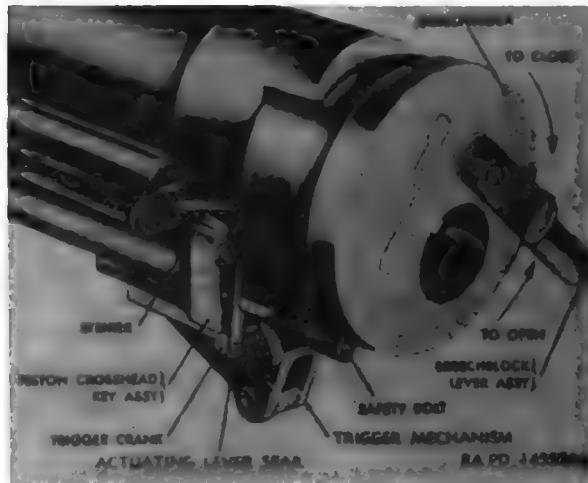

Figure 176. 37-mm gun breech.
a. Breechblock and Breechblock Lever. The breechblock (fig. 176) is an eccentric type which screws into the breech ring, and rotates through an angle of 156° about its axis. The axis of the breech recess is below the axis of the bore. The breechblock is operated by a breechblock lever assembly which, when rotated counterclockwise, positions the eccentric opening in line with the bore. Opening the breech operates the extractor, which extracts the cartridge case. When the lever is rotated clockwise, the breechblock closes the breech, seats the cartridge, places the firing pin in line with the primer in the base of the cartridge case, and at the same time, releases the safety bolt.
- (1) The subcaliber gun should be loaded at approximately 150-mils elevation, since this elevation is used when loading the primary weapon (par. 46). However, it is possible to load the 37-mm gun at any elevation less than 65°. At low elevation, the gun is loaded by standing on the trails or bogie. At high elevations, the gun is loaded by standing on the board placed across the trails under the breechblock of the 155-mm howitzer.
- (2) First cock the gun (par. 153b) if not already automatically recocked, and then open the breech (par. 153).
- (3) Place a round in the breech opening (fig. 180) and push it forward as far as allowed by the extractor. Rotate the breechblock lever to the right until the breech is fully closed (fig. 176). The gun is now ready to fire.